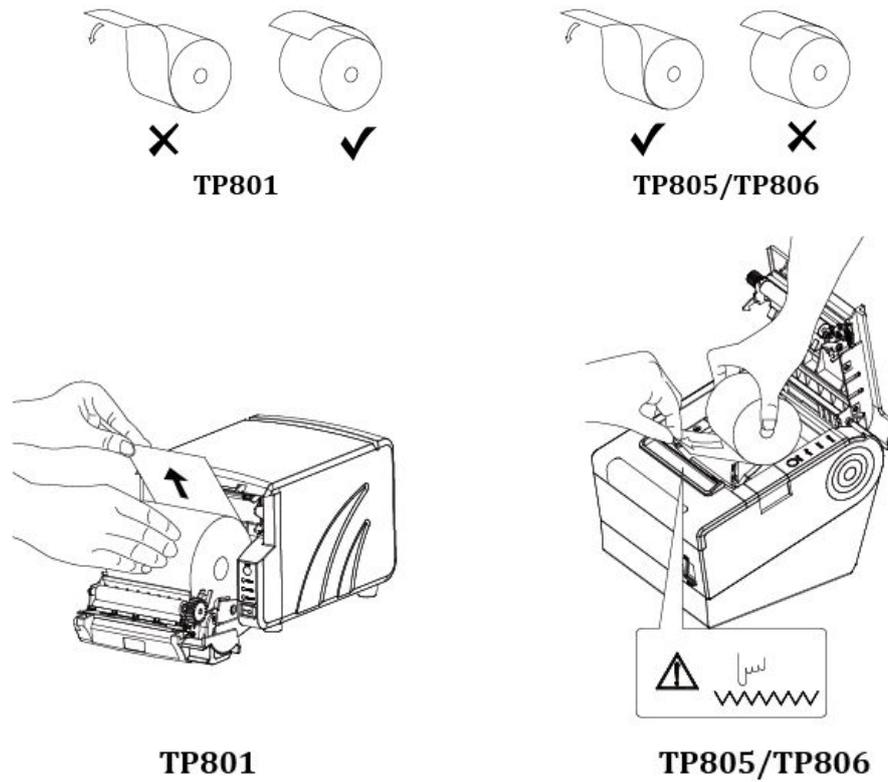

Figure 4.6.2
- 3) Put the paper into printer. Pay attention to the direction of the paper. ( Like figure 4.6.2 )